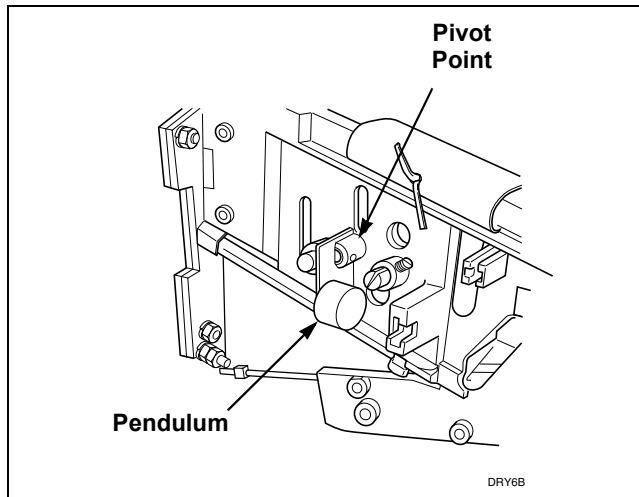

Figure 23
- i. Check coin return pendulum to verify it swings freely. If pendulum does not swing freely, spray pendulum pivot point with Teflon based lubricant and move pendulum back and forth two to three times. An additional application of Teflon based lubricant may be necessary to ensure that pendulum swings freely. Refer to *Figure 23*.